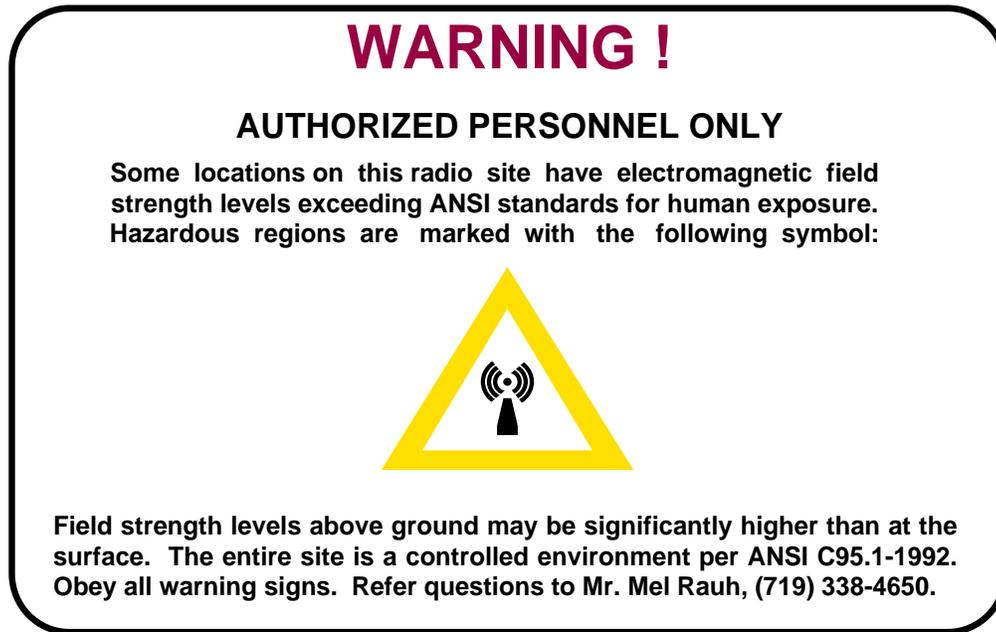

Figure 2 - Warning Sign at Entrance to Site
- *All personnel are warned of the potential radio frequency hazards.* There is only one way to enter the site. All personnel who enter the site are greeted by the sign shown in Figure 2.
- *Power reduction plans are in place.* Power reduction plans are in place for most towers on the site. These plans specify the contributing broadcast stations and the reduced power level required at elevations on the tower. All tenants are required to make the appropriate power reductions when requested. The site manager, Mr. Mel Rauh, (719) 338-4650, is available for guidance and assistance on power reduction.